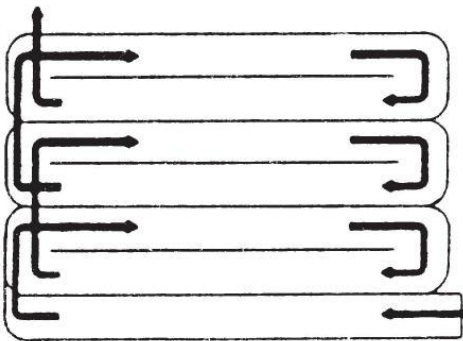

Figure 17
- In compacted soil or sod, or in food plot and sod busting applications, several passes may be necessary to till to a depth of seven (7) inches. For the first pass, just scratch the surface. The depth for each successive pass needs to be determined by individual site and soil conditions. If the machine stalls repeatedly, you should till slower or not as deep.
- Where possible, we recommend that you till in a pattern similar to that shown in **Figure 17**.